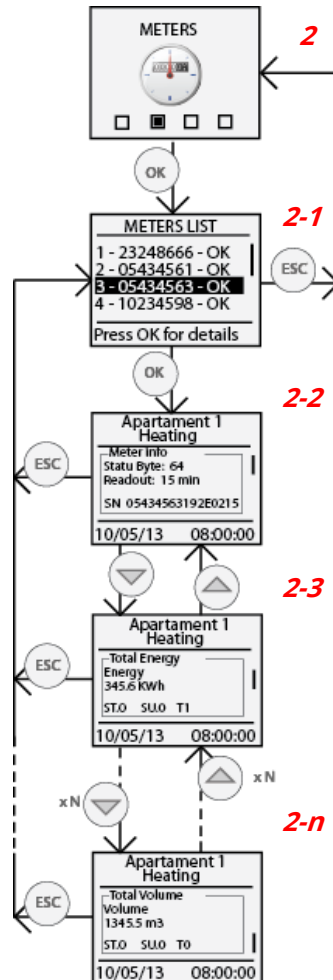

Figure 15 - Wireless meters display
- **2-2.** press OK in correspondence of a meter in the list to view the values of the last reading (if any). The first frame, indicated in Figure 15, is common to all three meters, as it is a summary of the main information pertaining to the meter, such as the M-bus status byte value, meter reading value, and the full serial number. If the M-Bus status byte is different from zero, it indicates possible meter anomalies. In the event that a meter is included in the datalogger database, you can identify an anomaly by accessing the web server and consulting the Devices page in the Settings menu. In the event that the meter is not included in the datalogger database, refer to the meter user guide to identify the anomaly corresponding to the number indicated in the M-Bus status Byte